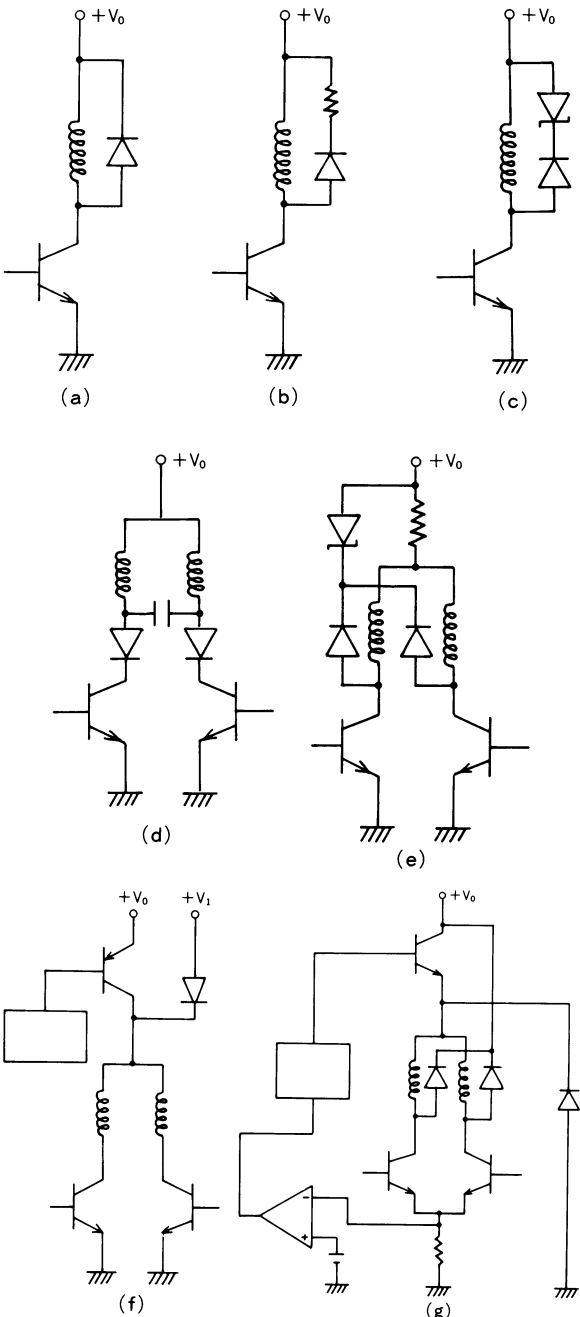

Fig. 8-1
The operation of a step motor is dependent upon an indexer (pulse source) and driver. The indexer feeds pulses to the driver which applies power to the appropriate motor windings. The number and rate of pulses determines the speed, direction of rotation and the amount of rotation of the motor output shaft. The selection of the proper driver is critical to the optimum performance of a step motor. Fig. 8-1 shows some typical drive circuits.
- 1. Diode Method Fig. 8-1 (a)
- 2. Diode + Resistance Method Fig. 8-1 (b)
- 3. Diode + Zener Diode Method Fig. 8-1 (c)
- 4. Capacitor Method Fig. 8-1 (d)
- 1. Constant Voltage Drive Fig. 8-1 (e)
- 2. Dual Voltage (Bi-level) Drive Fig. 8-1 (f)
- 3. Chopper Drive Fig. 8-1 (g)